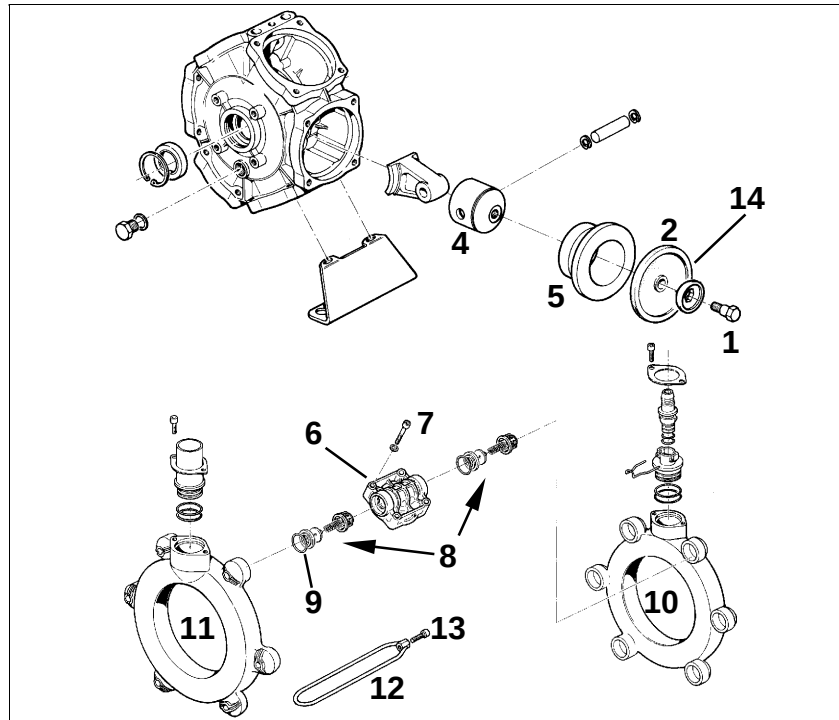

Fig. 123
- Fasten the piston diaphragm (Fig. 123/2) in such a way with the retaining disc (Fig. 123/3) and bolt (Fig. 123/1) to the piston (Fig. 123/4), so that the edge (Fig. 123/14) shows towards the cylinder head side (Fig. 123/6).
- Implicitly tighten bolts (Fig. 123/13) diagonally with the torque stated. Inaccurately tightened bolts will cause tensioning and thus leakage.
1. Slacken the bolt (Fig. 123/1) and remove the piston diaphragm (Fig. 123/2) together with the retaining disc (Fig. 123/3) from the piston (Fig. 123/4).
3. Remove the cylinder (Fig. 123/5) from the pump housing.
6. Re-insert the piston (Fig. 123/5) into the pump housing.
7. Fit the piston diaphragm (Fig. 123/2) n.
8. Fit cylinder head (Fig. 123/6) to pump housing and tighten bolts (Fig. 123/7) cross wise and equally.
9. After checking and cleaning fit the valve groups (Fig. 123/8).
10. Insert new O-rings (Fig. 123/9).
11. Fit the suction channel (Fig. 123/10) and the pressure channel (Fig. 123/11) on to the pump housing and fit the tensioning clamp (Fig. 123/12).
12. Tighten the bolts (Fig. 123/13) always diagonally with a torque of **11 Nm** an.